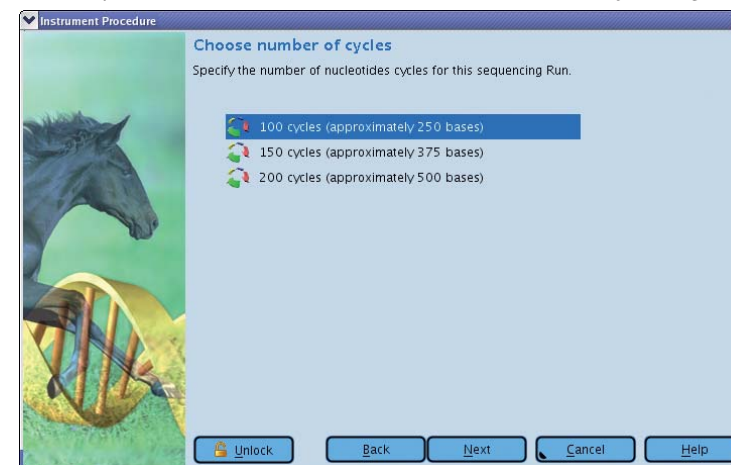

Figure 24: The Run Wizard's sixth window: Choose number of cycles
► This opens the Run Wizard's fifth window: Choose PicoTiterPlate type (Figure 24).
► This opens the Run Wizard's sixth window: Choose number of cycles (Figure 24).